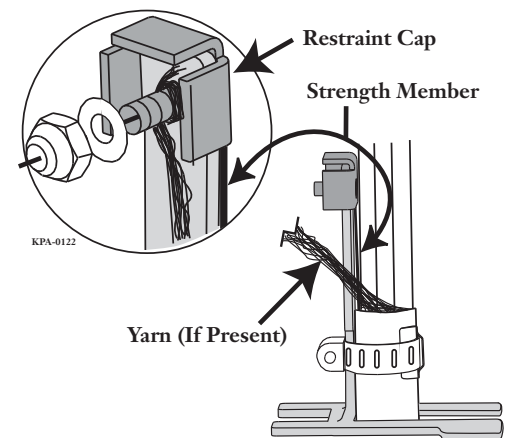

Figure 10 — Strength Member Restraint
Step 3: Wrap the yarn, if present, twice in a clockwise direction around the threaded stud (Figure 10).